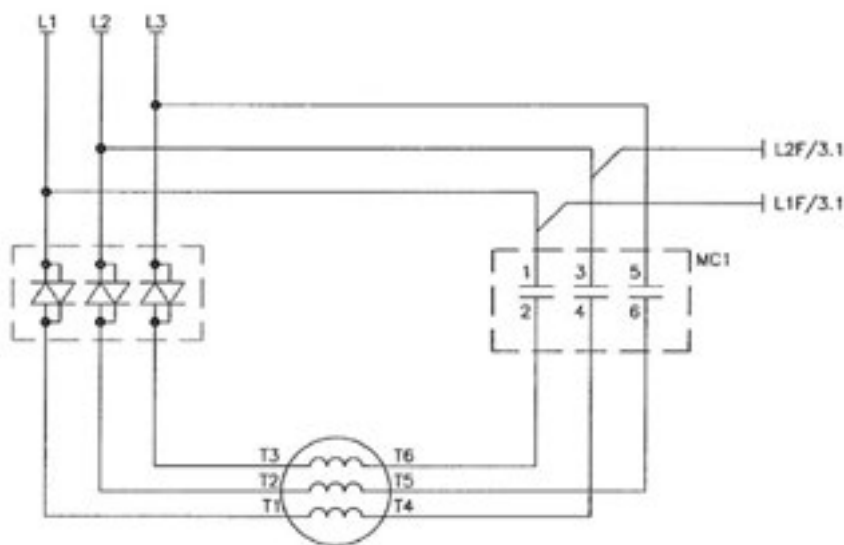

Figure 6 - Electronic Starter Pump Motor Wiring Diagram
5. Verify the correct motor wiring. See Figure 6.